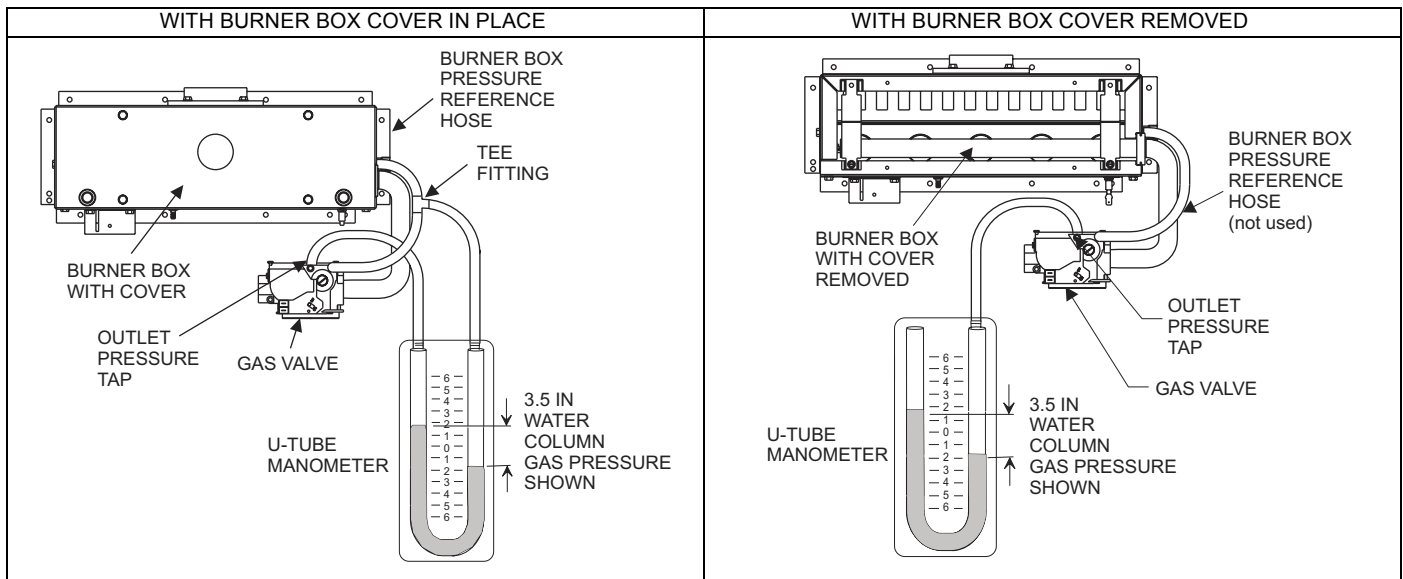

FIGURE 22: Reading Gas Pressure
- E. Use the 5/16" (7.94 mm x 1/8" (3.175 mm) reducing coupling and a 4" (101.6 mm) piece of 1/8" (3.175 mm) tubing to connect the positive side of the manometer to the gas valve pressure reference port. Refer to Figure 22 for connection details.
**Reading the gas pressure with the burner box cover removed -** Remove the screws securing the burner box front cover plate. Remove the cover. The gasket and may stick in place. Connect the positive side of the manometer to the gas valve as described in E above. There will be no second connection to the manometer, as it will reference atmospheric pressure. Refer to Figure 22 for connection details.